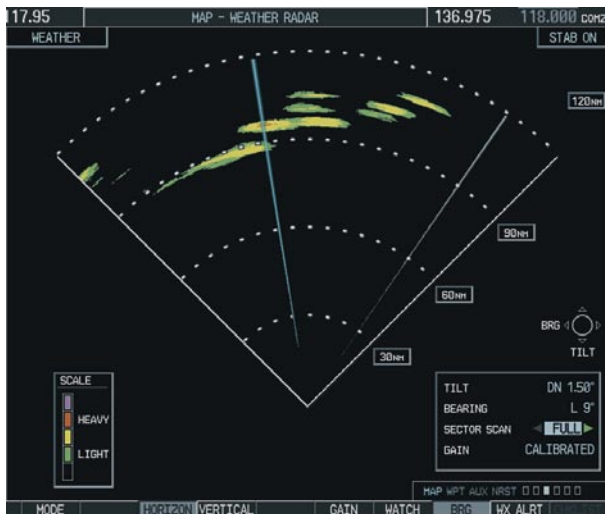

Figure 10-35 Selecting Sector Scan Position
- 1) While in horizontal scan mode, select the **BRG** Softkey to display the Bearing Line and place the cursor in the BEARING field (Figure 10-35).